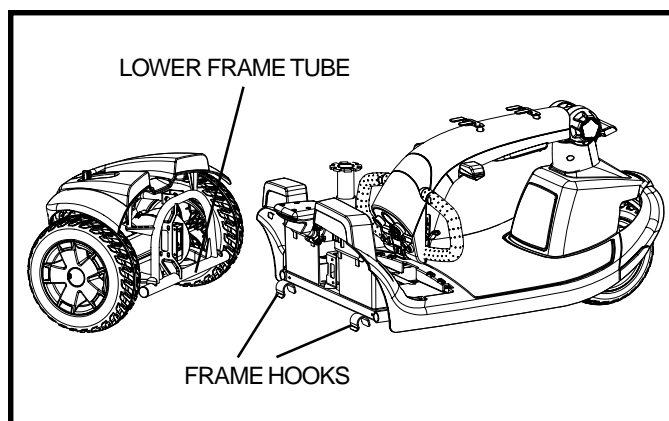

Figure 23. Frame Separation
4. Lift the front section up until the frame hooks of the front section separate from the rear section. See **figure 23**.
5. Slowly separate the two sections. See **figure 23**.
1. Position the front and rear sections of your scooter as shown in **figure 23**.
2. Use the frame release lever to lift the front section as you align the frame hooks of the front section with the lower frame tube of the rear section. See **figure 23**.